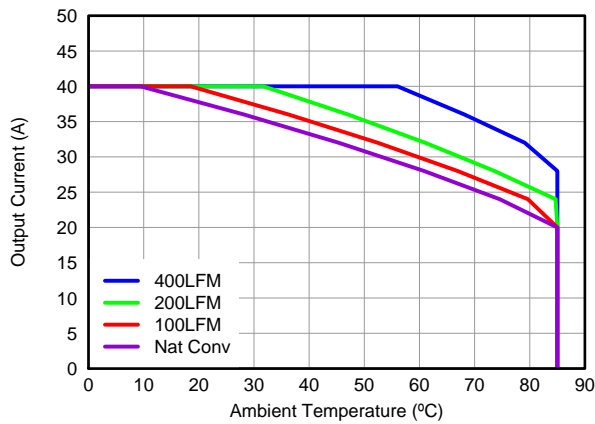

Figure 3. Safe Operating Area – PCB Vertical Mount⁽¹⁾
The SOA curves in the CSD87353Q5D data sheet provides guidance on the temperature boundaries within an operating system by incorporating the thermal resistance and system power loss. Figure 3 to Figure 5 outline the temperature and airflow conditions required for a given load current. The area under the curve dictates the safe operating area. All the curves are based on measurements made on a PCB design with dimensions of 4 in (W) × 3.5 in (L) × 0.062 in (T) and 6 copper layers of 1-oz copper thickness.